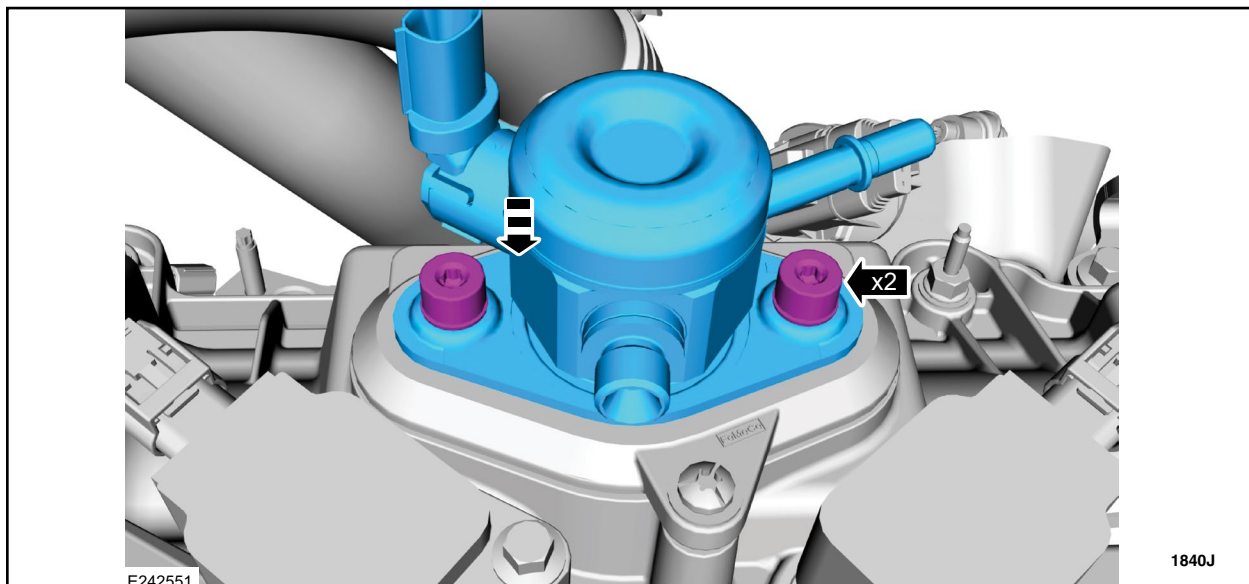

FIGURE 9
12. Install the new high-pressure fuel pump to the mounting plate. See Figure 9.